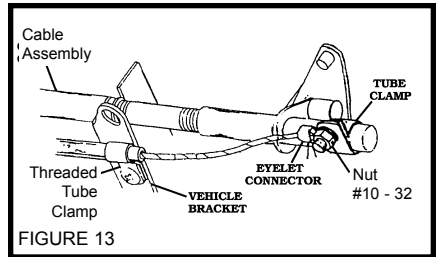

FIGURE 13
4. **Figure 13** is an example of a **Ford™** Throttle connection using the **TUBE CLAMP**.